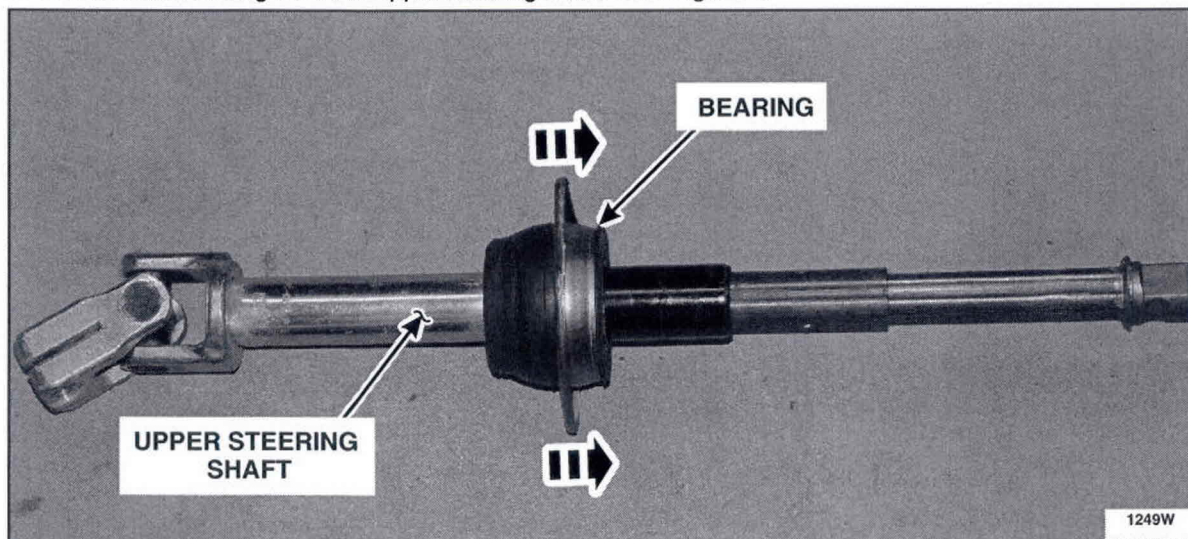

FIGURE 4
5. Remove the bearing from the upper steering shaft. See Figure 4.
6. Install the bearing onto the new upper steering shaft. See Figure 4.